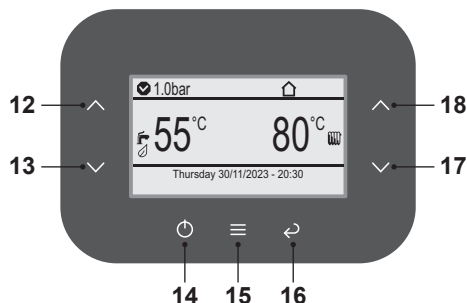

Fig. 8.40
- Press key 15 (Fig. 8.40) to go to the main menu (Fig. 8.41).
- Press key 12 or 13 (Fig. 8.40) to select the desired menu (Fig. 8.42).
- Press key 15 (Fig. 8.40) to access the selected menu (Fig. 8.43).
- Press key 12 or 13 (Fig. 8.40) to select the desired menu from those available (Fig. 8.45).
- Press key 15 (Fig. 8.40) again to highlight the value to be changed.
- Press key 12 or 13 (Fig. 8.40) to select the desired menu (Fig. 8.45).
- Use key 17 or 18 to modify the value of the selected parameter.
- Press key 15 (Fig. 8.40) to confirm the change or key 16 to exit without changing the value (return to previous level).